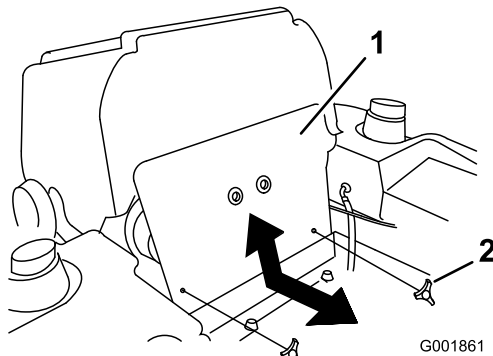

Figure 43
3. Tilt the seat forward and remove the front engine panel (Figure 43).